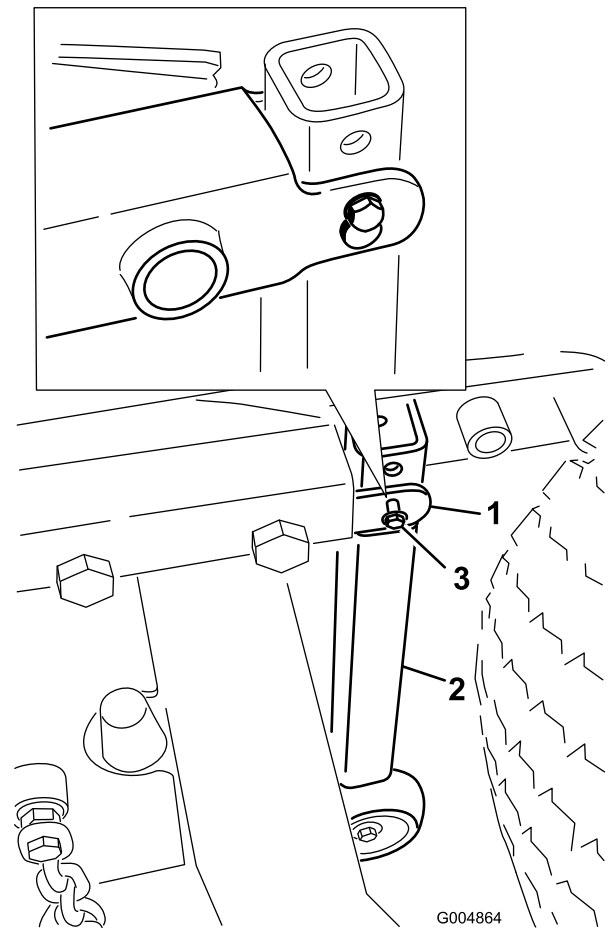

Figure 88
32. Remove the clevis pins and a 5/16" self-tapping screw pin retainers securing the vertical tube support assemblies to the rear of the deck frame (Figure 88).